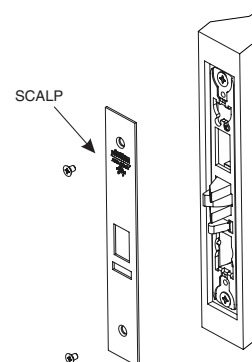

Figure 26
14. Install scalp using 3/16" Flat Head Screws. (Figure 26)